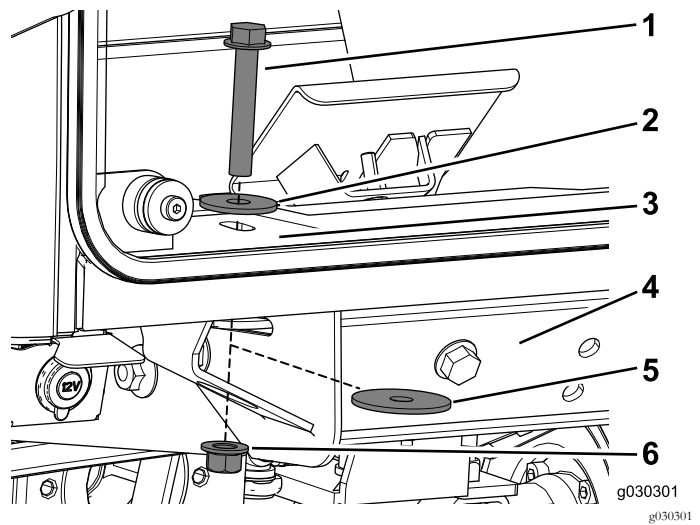

**Figure 19**
5. Use a bolt (1/2 x 3 inches), a thrust washer, a large washer, and locknut to secure the cab to the rear mounts on the machine (Figure 19).